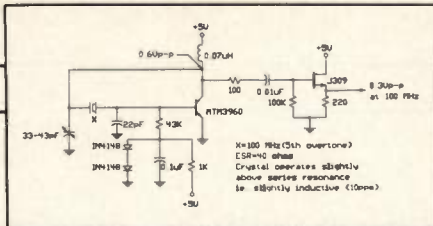

Figure 6. Pierce harmonic oscillator configuration.
According to Matthys (ref. 5), the Pierce circuit configuration shown in Figure 6 operates well at 100 MHz (although not constructed and tested).